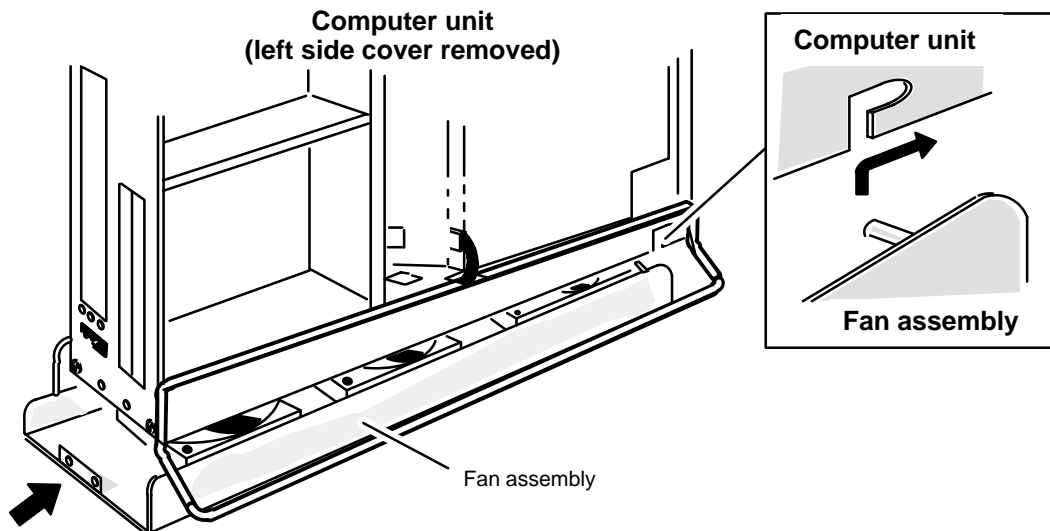

Figure 11-5 Installing the Fan Assembly in the Computer Unit
3. Insert the two pins on the fan assembly into the two slots on the bottom front of the computer unit as shown in Figure 11-5, and then push the fan assembly forward to secure it to the computer unit.